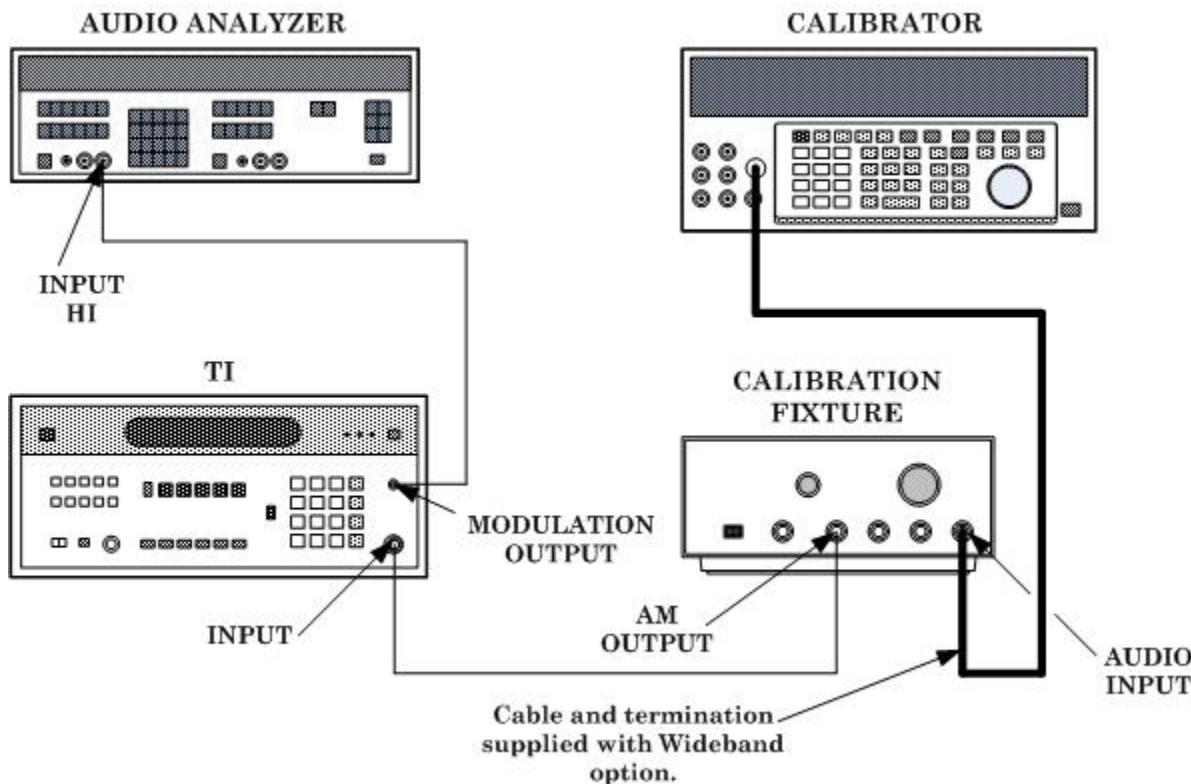

Figure 2. AM distortion - equipment setup.
(1) Connect equipment as shown in figure 2.
(2) Set calibrator for a wideband output of 20 kHz at an amplitude of 175 mV.
(3) Position TI controls as listed in (a) through (c) below:
(4) Adjust calibrator wideband output for a 50 percent AM indication on TI display.
(5) Set audio analyzer to measure signal distortion with 80 kHz low-pass filtering. Distortion will be 0.3 percent or less.
(6) Increase calibrator wideband output for a 95 percent AM indication on TI display. Measured distortion will be 0.6 percent or less.
(7) Adjust calibrator frequency to 20 Hz and adjust wideband output to maintain 95 percent AM indication on TI display. Measured distortion will be 0.6 percent or less.
(8) Decrease calibrator wideband output for a 50 percent AM indication on TI display. Measured distortion will be 0.3 percent or less.
(1) Connect equipment as shown in figure 2, except connect calibration fixture **FM ÷ 4 OUTPUT** to TI **INPUT**.
(2) Position TI controls as listed in (a) through (c) below: